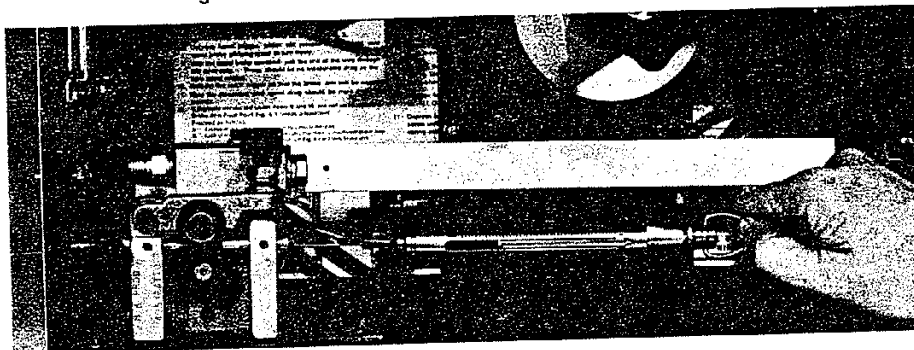

Figure 11
4. Cut a piece of .045" hard wire of sufficient length for test setup **Fig. 11.**
5. Make test setup as illustrated in **Fig. 11.**